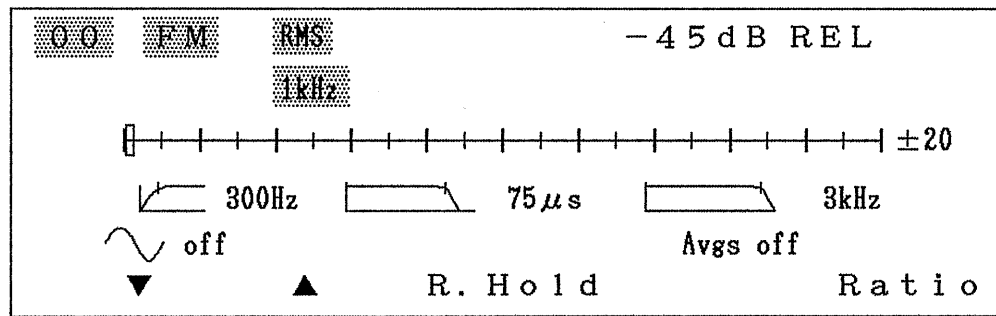

Fig. 4-11
8. Turn off the AF oscillator. Items 6.-8. are repeated allowing FM S/N to read directly from viewing area 2 as shown in Fig. 4-11. The display on the right side of the bar graph scale is such that the left side of the scale indicates -20dB , the right side $+20\text{dB}$ and the center 0dB . Therefore, in the example of Fig. 4-11, the display of -45dB REL is displayed on the left side. Changing of the ratio display between LOG and LIN displays is done by pressing the F4 and F5 key after pressing the yellow key (4).